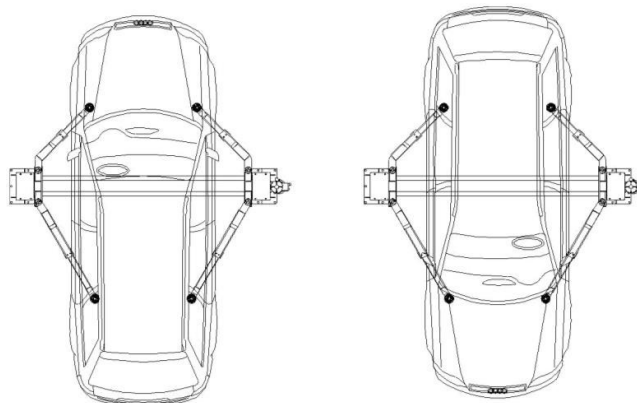

Fig 19
3. Load vehicle correctly (Fig 19).